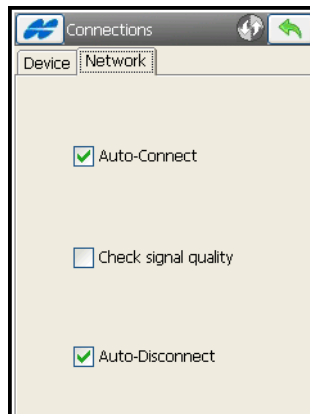

Figure 2-4. Network Connection
2. On the *Network* tab that displays for job configurations to work in a network (Figure 2-4):